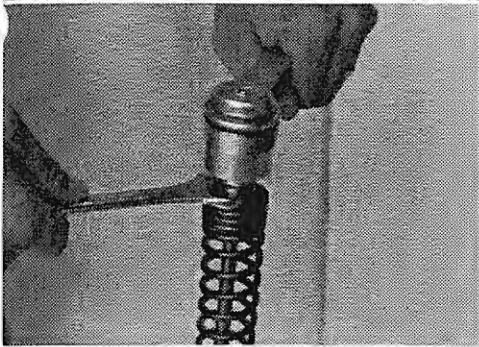

Figure 5.9
12. Hold the fork cap with a 24 mm wrench, pull down the preload spacer against the spring, and insert a 17 mm open end wrench above the preload spacer on the lock nut. Loosen the 17 mm hex lock nut on the cartridge stem. Remove the fork cap. (Figure 5.9)